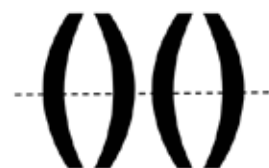

Fig. 24. Arrangement of clamping discs
4. Make sure that the flat steel strips and clamping discs are positioned correctly (see Fig. 24).